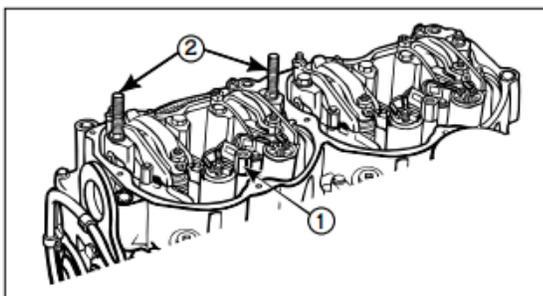

FIG. 10
1. Refer to Fig. 10. Torque the cylinder head bolt spacer (1) to 70 lb.-ft. (95 Nm). Torque the brake mounting studs (2) to 70 lb.-ft. (95 Nm).